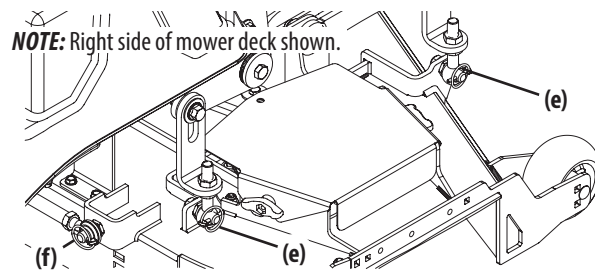

Figure 36
- Remove the four lynch pins (e) that secure the deck to the deck lift assembly (Figure 36).
- Remove the lynch pin (f) securing the rear stabilizer bar to the rear, right side of the deck (Figure 36).